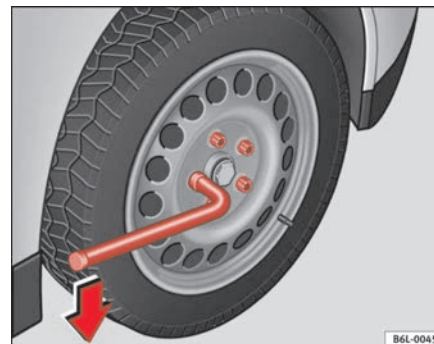

Fig. 126 Changing the wheel: loosen the wheel bolts
- Grasp the box spanner by the end turn it about one full turn to the **left** ⇒ fig. 126.